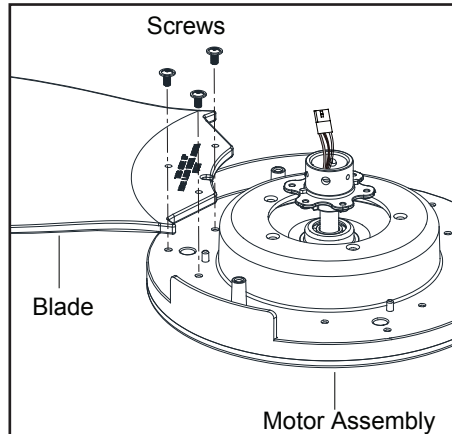

Figure 6
2. Attach the blades to the fan motor assembly by aligning the notches on the blades with alignment post on the flywheel and put the blade on to the flywheel, secure with screws and tighten it. Repeat these steps for remaining blades. (Figure 6)